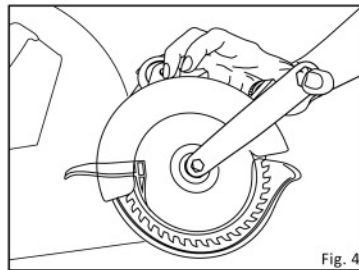

Fig. 4
2. Use the blade wrench to unscrew the lock nut. (Fig. 4)